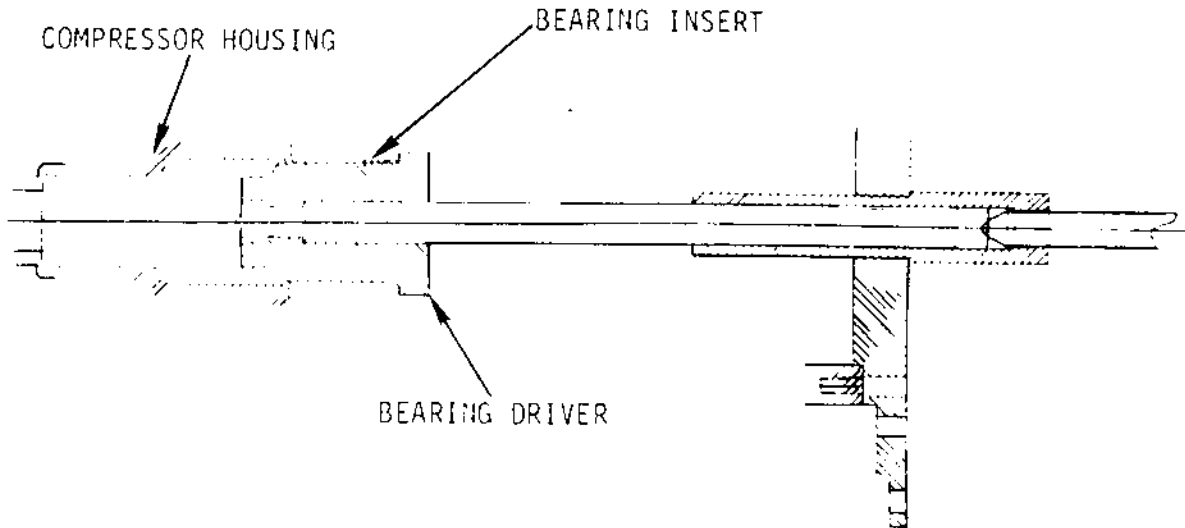

FIGURE 6 - Installing Large Motor End Bearing Insert
6. The large motor end bearing insert can be installed using the bearing driver, push rod and utility bar as shown in Figure 6. The insert must be pressed in from the pump end, with the lap joint in the 12 o'clock position when it is installed in the compressor housing. This will require removal of the pump end bearing head assembly.